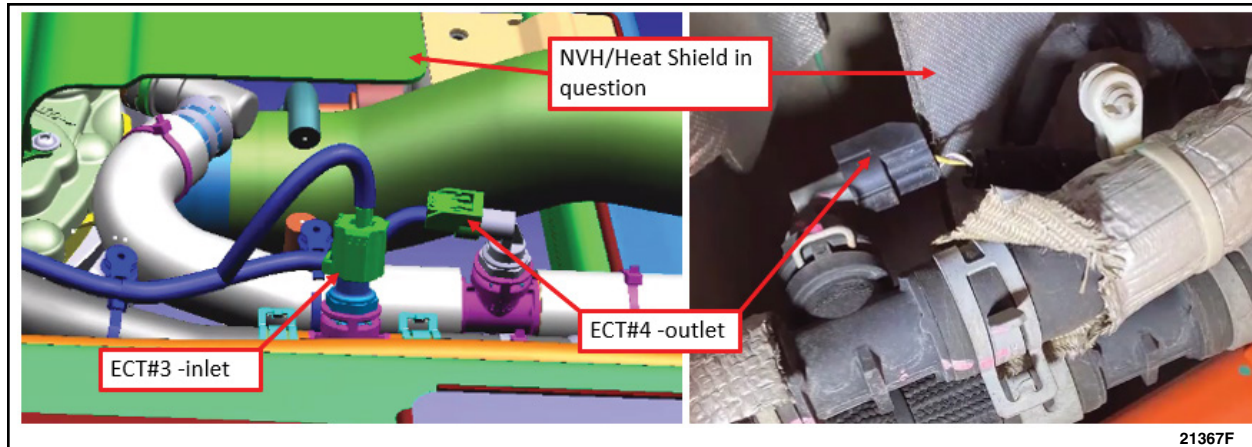

FIGURE 4
4. Inspect the front Engine Coolant Temperature (ECT) sensor connectors for any damage caused by the passenger side insulator. Is there any damage? See Figure 4.